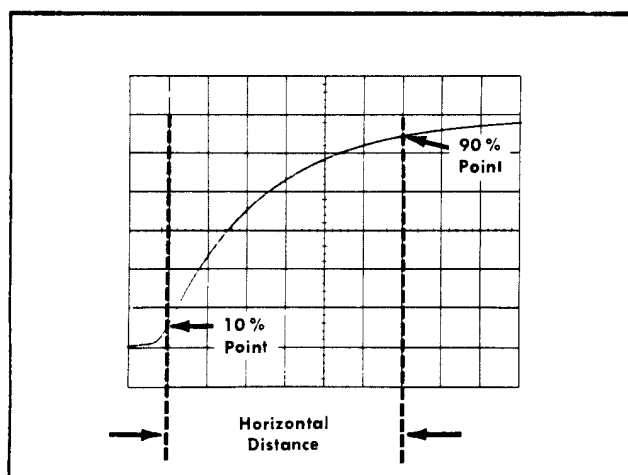

Fig. 2-13. Measuring risetime.
6. Adjust the horizontal POSITION control to move the 10% point of the waveform to the first graticule line. For example with a six division display, the 10% point would be 0.6 division up from the start of the rising portion (see Fig. 2-13).
**Example.** As an example of this method of measurement, assume that the distance between the 10% and 90% points is 6 divisions (see Fig. 2-13) and the TIME/DIV switch is set to 1  $\mu$ SEC with the magnifier on.